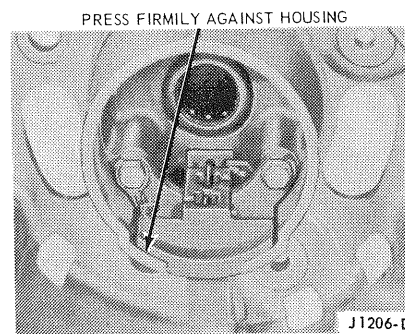

FIG. 20 Brush Lead Positions
8. Position the brush holder assembly in the rear housing and install the mounting screws. Position the brush leads in the brush holder as shown in Figure 20.